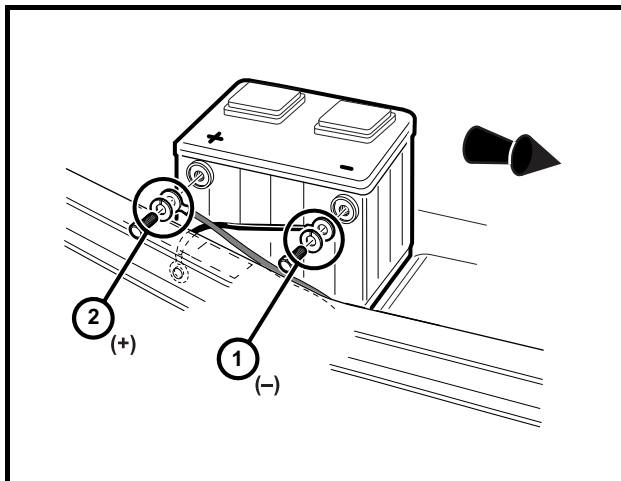

Figure 1-1 Disconnect Battery – Gasoline Vehicle
- Disconnect battery cables, negative (–) cable first (Figure 1-1, Page 1-3).
2. Disconnect the battery cables, negative (–) cable first, as shown (**Figure 1-1, Page 1-3**).